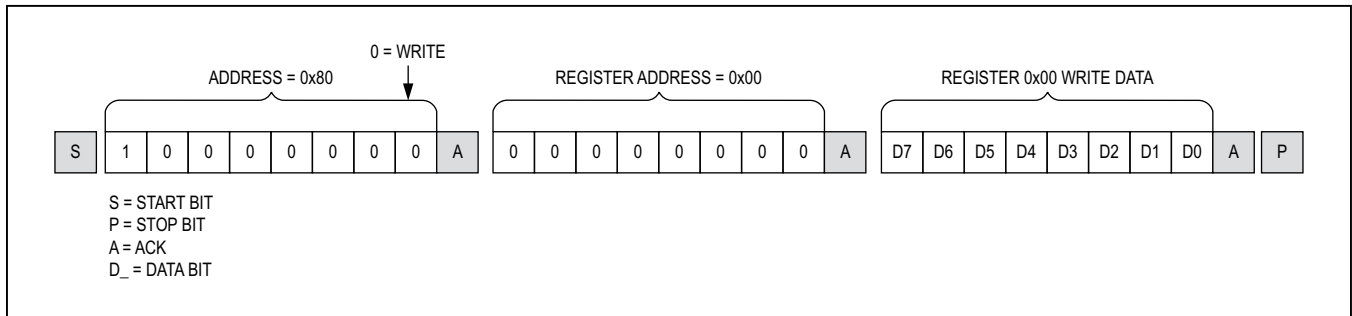
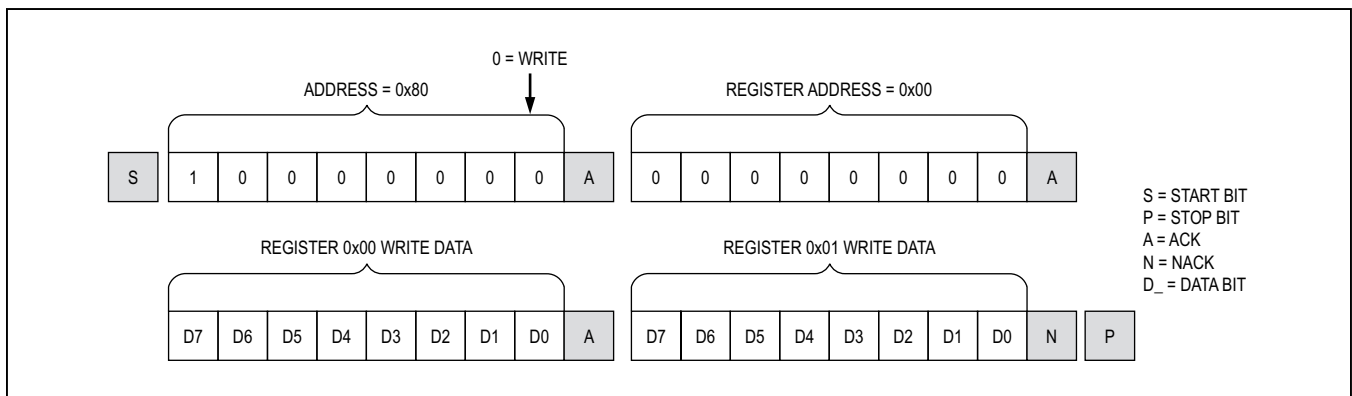

Figure 33. Format for I²C Write
Figure 34. Format for Write to Multiple Registers
Writes to the serializers comprise the transmission of the slave address with the R/W bit set to zero, followed by at least one byte of information. The first byte of information is the register address or command byte. The register address determines which register of the device is to be written by the next byte, if received. If a STOP (P) condition is detected after the register address is received, the device takes no further action beyond storing the register address (Figure 33). Any bytes received after the register address are data bytes. The first data byte goes into the register selected by the register address, and subsequent data bytes go into subsequent registers (Figure 34). If multiple data bytes are transmitted before a STOP condition, these bytes are stored in subsequent registers because the register addresses autoincrements.